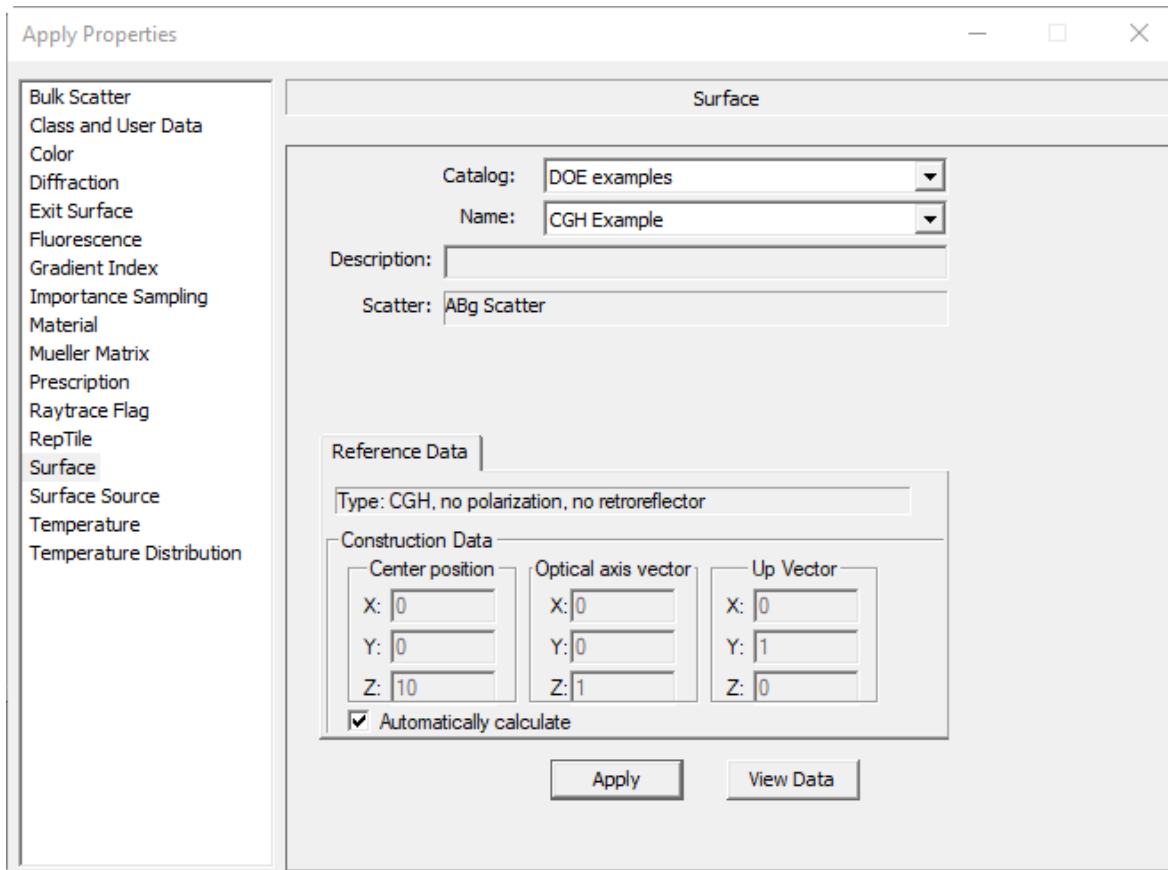

Figure 12. Applying the example CGH surface property with *Automatically calculate* checked for the Construction Data.
9. In the **System Tree**, select *Surface 0* of the Lens Element you created earlier. Open the **Apply Properties** dialog box (**Define|Apply Properties...**), and select the **Catalog** and **Name** of the property you created. In the *Construction Data* box in the **Reference Data** tab, note that *Automatically calculate* is checked and calculated values are entered, as shown in Figure 12. Click **Apply**.